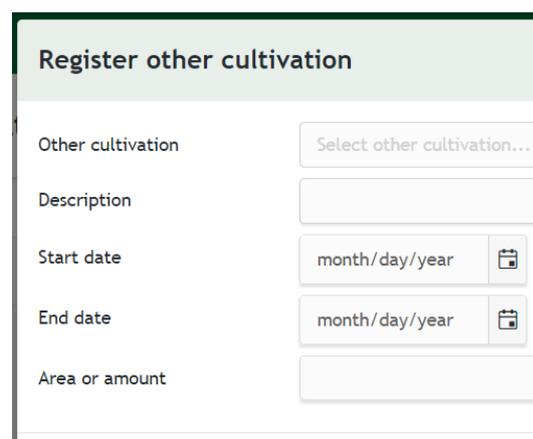

Figure 7
3. Click on the green '+ Register' button. A screen will open as shown in figure 7. Select the crop in the first field and click on 'Save'.